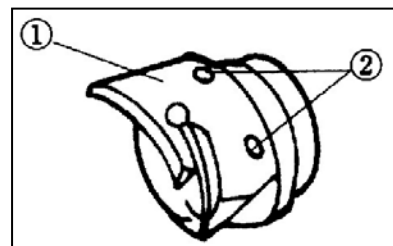

Fig.27
To change the movable knife (1), turn the pulley manually to place the needle at the highest point. Then, remove the needle plate by unfastening the two movable knife fixing screws (2) as seen in Fig.27. Follow these instructions in reverse order to assemble.